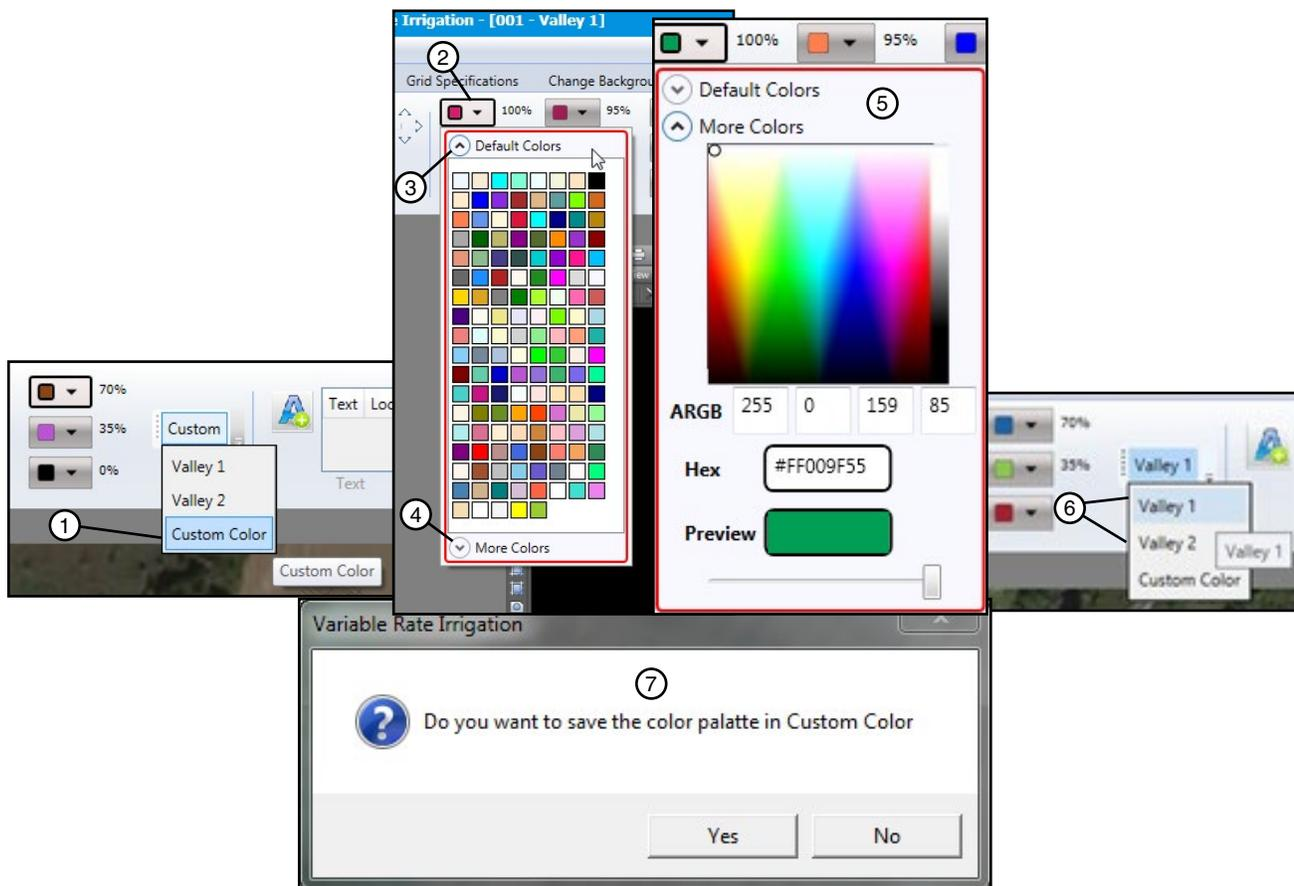

Figure 18-1 1. Custom Color 5. More Colors Screen
- (a) To make your Custom Color pallet See Figure 18-1: